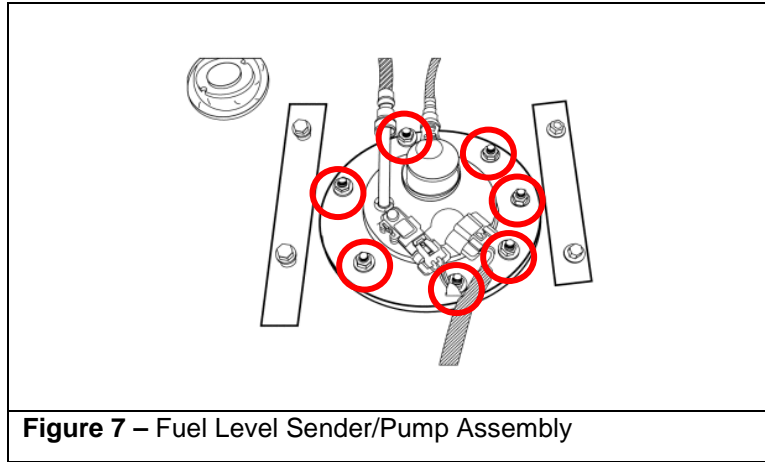

Figure 7 – Fuel Level Sender/Pump Assembly
18. Using a clean rag or compressed air, remove any loose dirt or debris from the top of the tank. Remove the seven (7) fasteners securing the fuel level sender/pump assembly (See Figure 7).